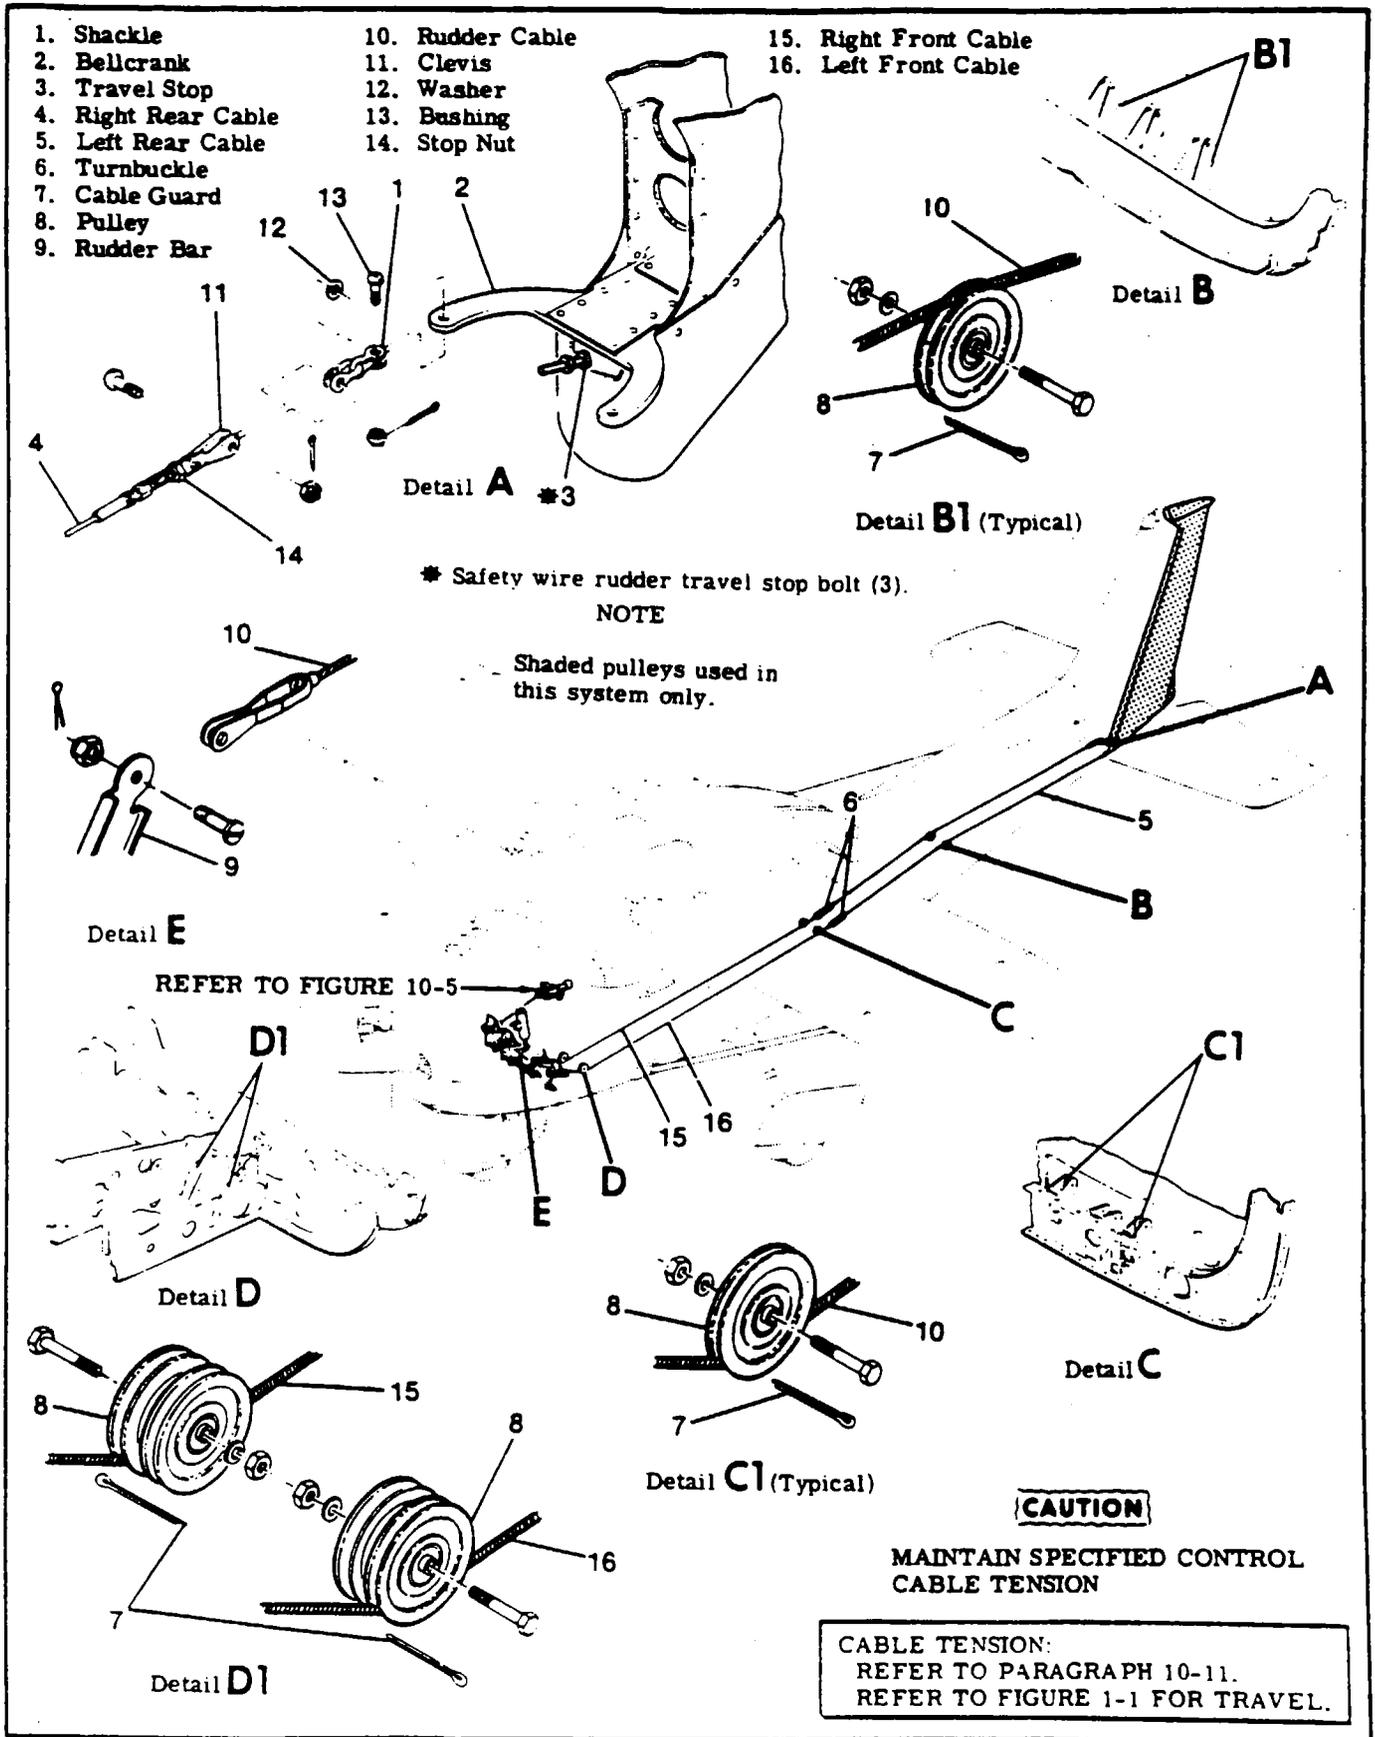

Figure 10-1. Rudder Control System
- 10-1. RUDDER CONTROL SYSTEM. (See figure 10-1.)
- b. Disconnect master cylinders (12) at pilot rudder pedals.
- d. Remove rudder pedals (2) and brake links (5).
- e. Relieve cable tension at clevises (index 11, figure 10-1).
- g. Remove bolts securing bearing blocks (8) and work rudder bars out of tunnel area.
- a. Disconnect tail navigation light quick-disconnect (13).
- b. Relieve cable tension at clevises (index 11, figure 10-1) and disconnect clevises from rudder bellcrank (12).
- c. With rudder supported, remove hinge bolts (1) and lift rudder free of vertical fin.
10-9. CABLES AND PULLEYS. (See figure 10-1.)
10-11. RIGGING. (See figure 10-1.)